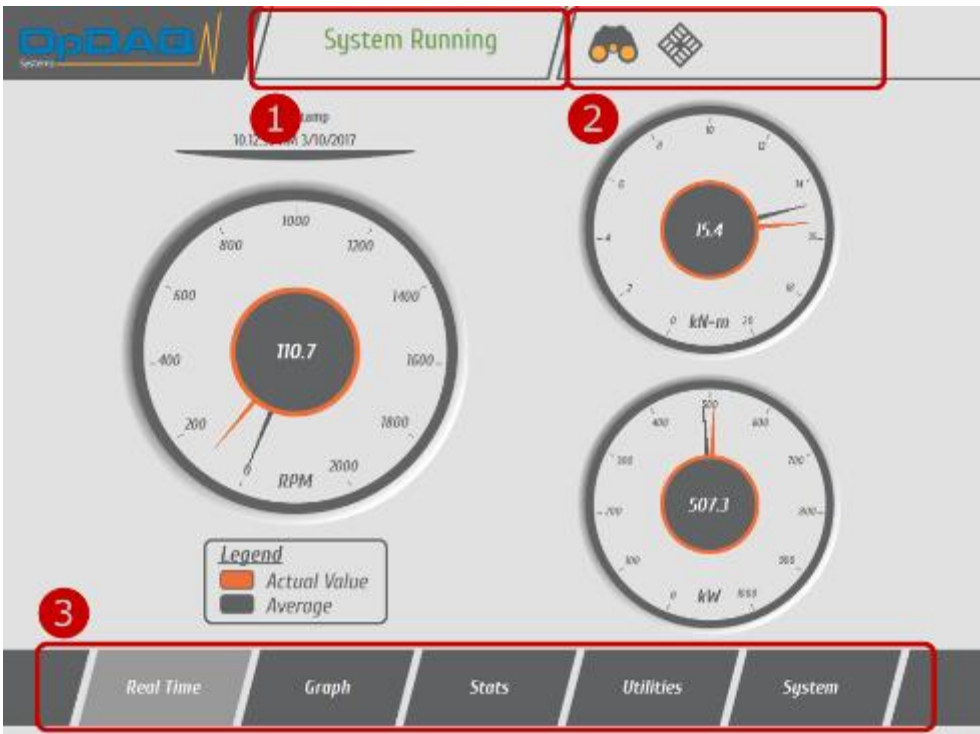

Figure 20 – System Overview
**NOTE : Refer to figure 20 - entitled Connection panel of the Analog module figures.**